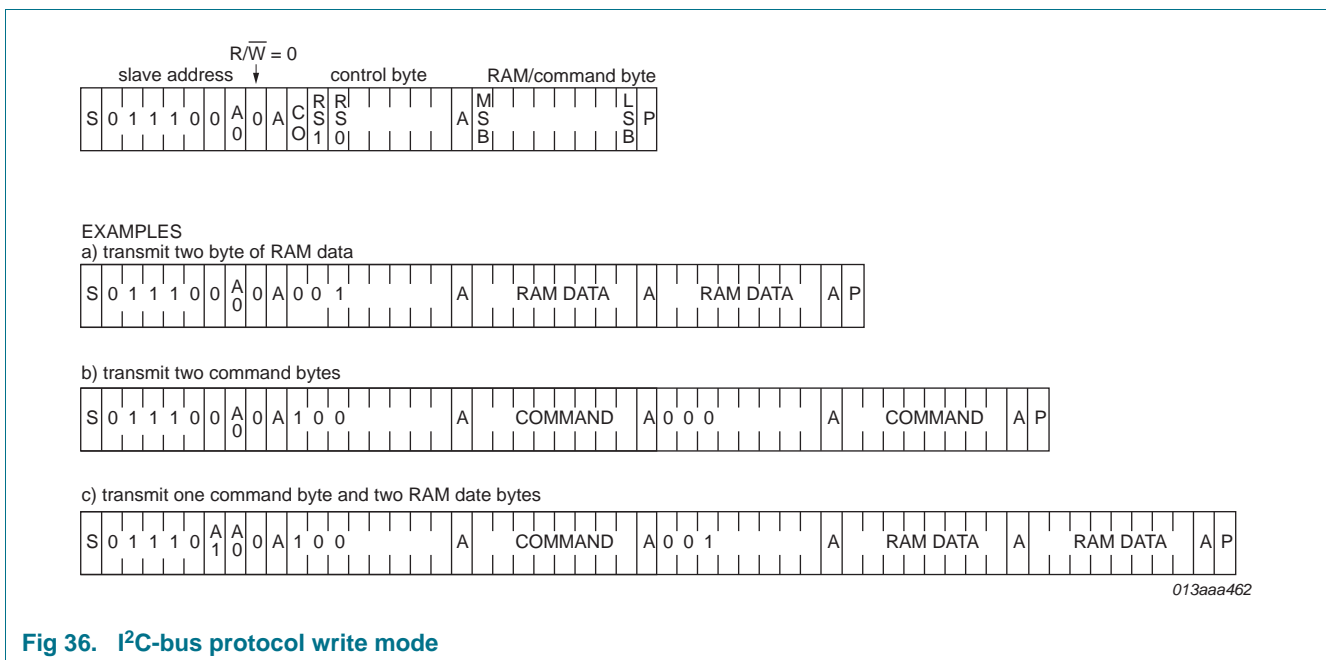

Fig 36. I2C-bus protocol write mode
The I2C-bus protocol is shown in Figure 36. The sequence is initiated with a START condition (S) from the I2C-bus master which is followed by one of the two PCF8536 slave addresses available. All PCF8536 with the corresponding A0 level acknowledge in parallel to the slave address, but any PCF8536 with the alternative A0 level ignore the whole I2C-bus transfer.